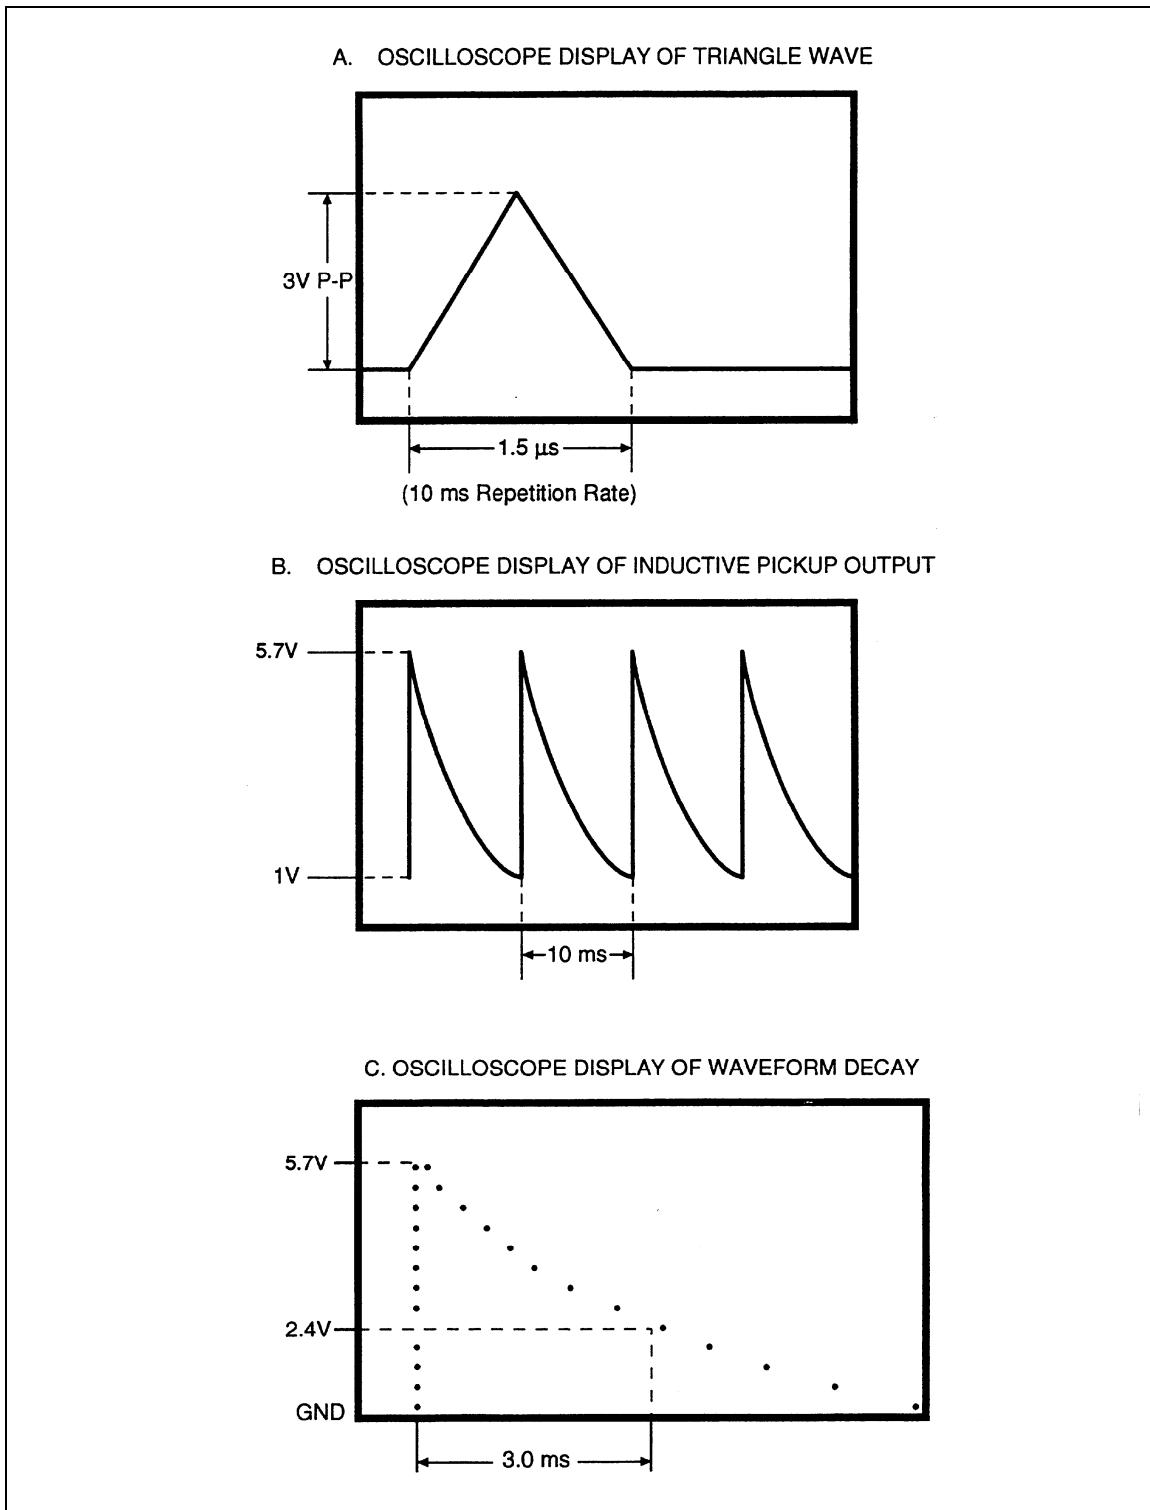

Figure 5. Waveform for Inductive Pickup Test
9. Adjust the amplitude of the function generator to produce a 3 VP-P triangle wave. See Figure 5.
12. Check that the peak voltage is greater than 5.7 V and decays to less than 1.0 V between pulses. See Figure 5. Record the peak value for later use.
15. Check the amplitude after 3.0 ms from the waveform peak, the voltage amplitude is 2.4 V +0.5/-0.8 (1.6 V to 2.9 V). (See Figure 5(C).)